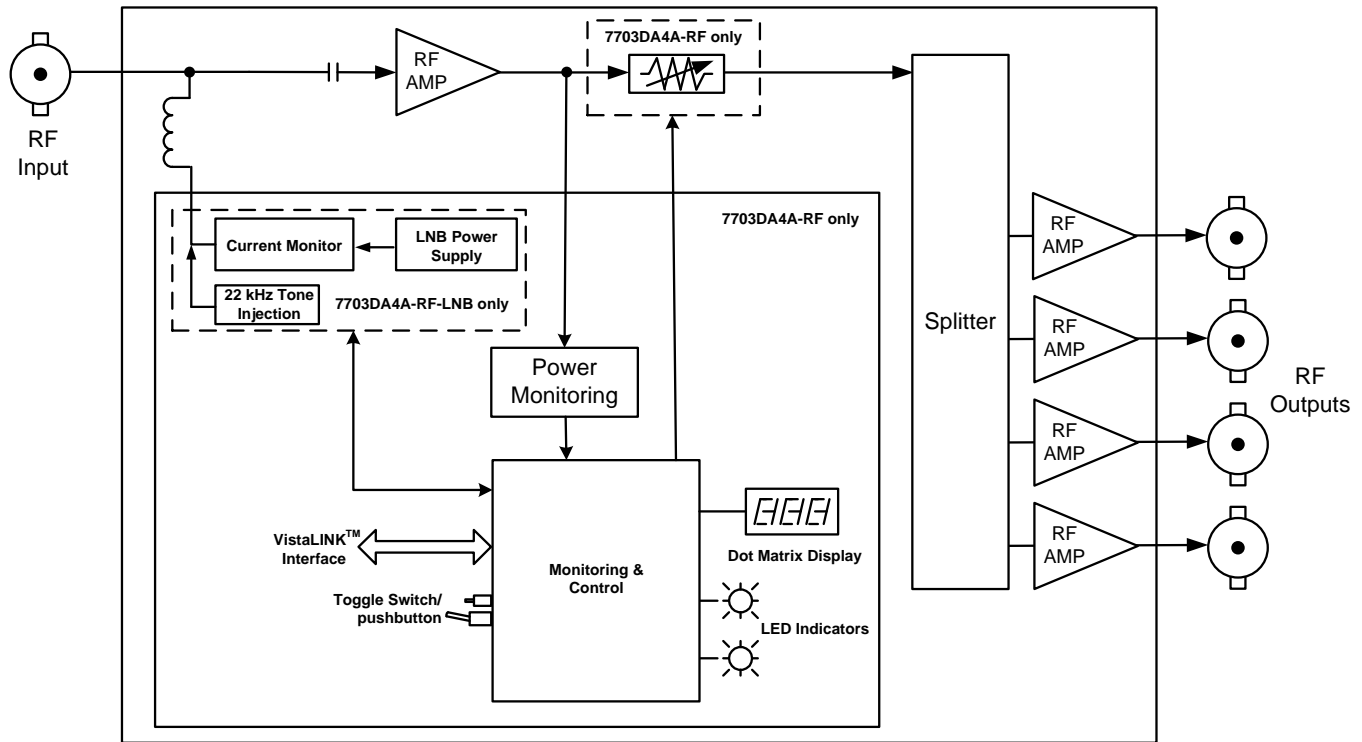

Figure 1-1: 7702(3)DA4A-RF Block Diagram
- Figure 1-1: 7702(3)DA4A-RF Block Diagram 2